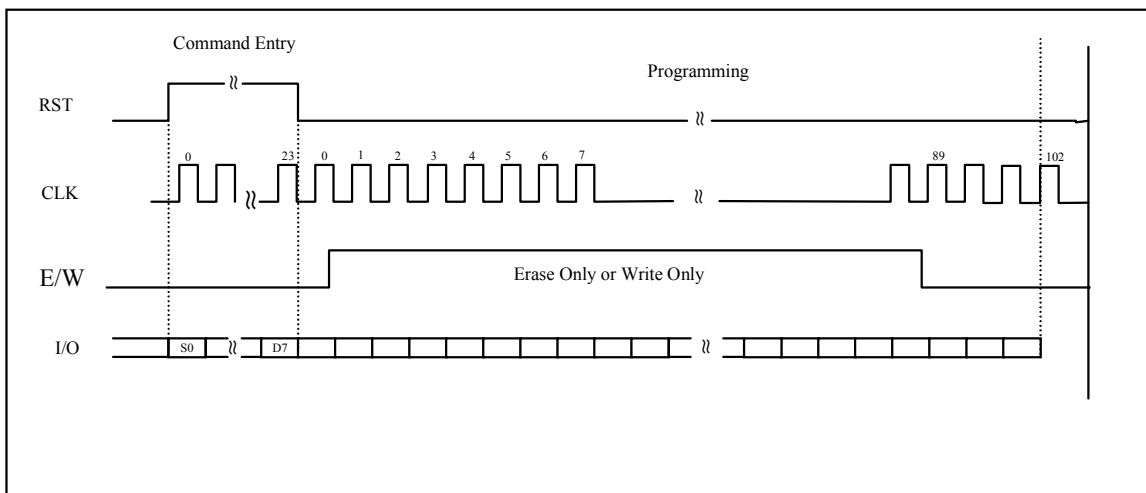

Figure 9: Programming Erase Only or Write Only
2. Write only if 103 clock pulses at $f < 20\text{KHz}$ are applied. This operation is only suitable if single bit of one byte shall be change only from 1 to 0. (See Figure. 9)
3. Erase only if the input data = FFH and 103 clock pulse at $f < 20\text{KHz}$ are applied. (See Figure. 9).
The write protect bit with data comparison command writes 0 to the corresponding protect bit only if the input data and the data in the specified memory location are the same. After the protect bit is set to 0 (write protection is enabled), it cannot be changed again. (See Figure. 9).